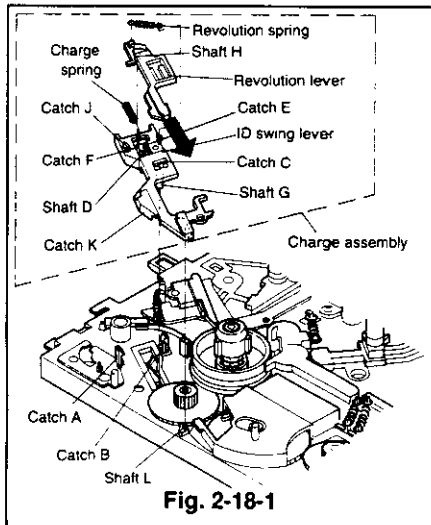

Fig. 2-18-1
- 2 Fix the charge spring to shaft D of the ID swing lever and compress it to hook its ends with the catches E and F. (Refer to Fig. 2-18-1)